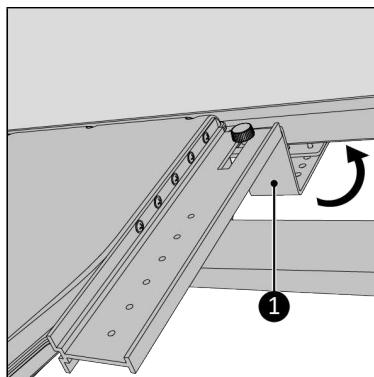

Figure 98.
7. Hook the bracket around the frame of the window (Figure 98, pos. 1).